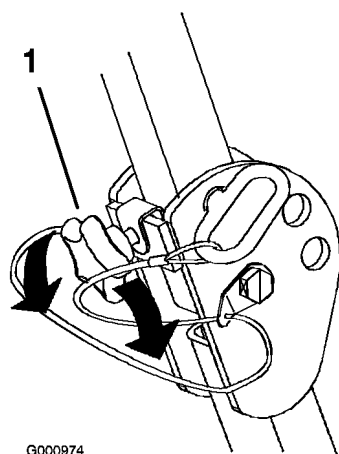

Figure 7
1. To lower the roll bar, loosen the front knobs (Figure 7).
Important: Tighten the front knobs against the center roll bar ends (Figure 7).